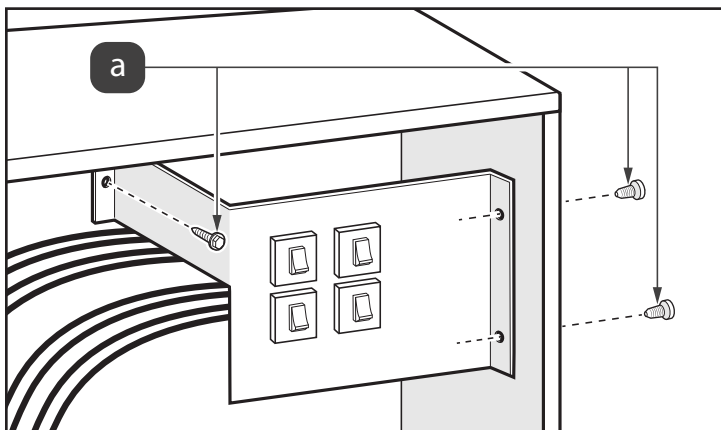

Figure 11. Remove Circuit Breaker Assembly
16. Remove the 3 retaining screws from circuit breaker assembly located behind control panel, see Figure 11(a).